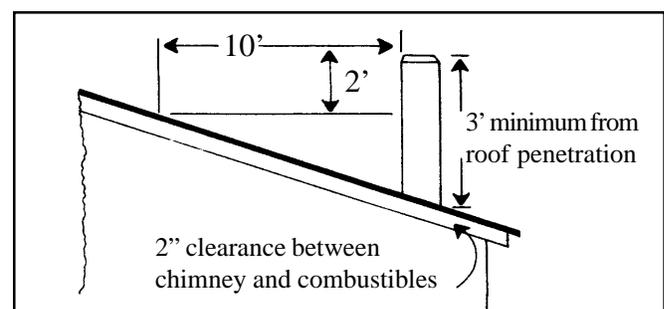

Figure 2. To prevent downdrafts and fire from sparks, chimney height must be at least 2 feet above any roof surface within 10 feet horizontally.
- Chimney top should extend at least 3 feet above the highest point where it passes through the roof and at least 2 feet higher than any portion of the building within 10 feet (Figure 2). If roof is flat, the chimney should be at least 3 feet above the roof.